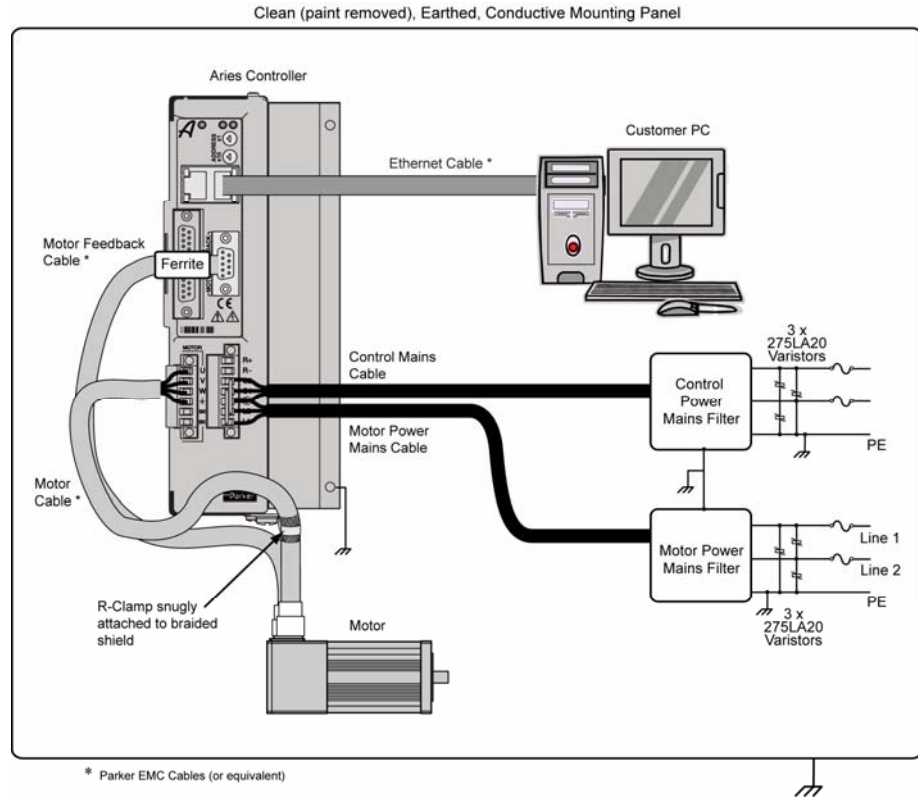

Figure 44 Typical LVD/EMC Installation
- If you mount the drive/controller in an equipment cabinet, *terminate cable braids (screens) as they enter the enclosure*. This can be easily accomplished using the “additional EMC installation hardware” shown Figure 44 on page 120.
There is only one exception: *the motor braid must return to the drive/controller's R-clamp* (located on the bottom of the drive/controller--see Figure 44 on page 120). *Do not* return the motor braid to any other location; its function is to return high-frequency chopping current back to the drive/controller. This may require mounting the connector on a sub-panel insulated from the main cabinet or using a connector having an insulated internal screen from the connector housing.
- Route cables as shown in Figure 44 on page 120.
Figure 44 illustrates a typical panel installation of the drive/controller that meets LVD and EMC requirements.